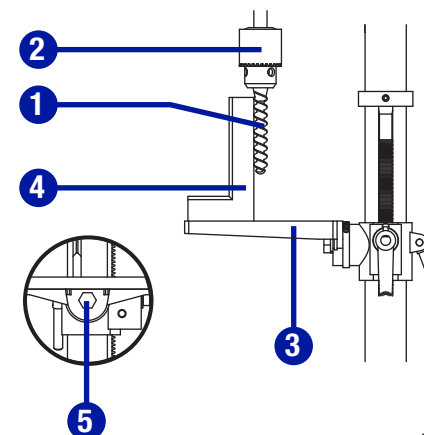

Fig. 18
**TO SQUARE THE TABLE TO THE HEAD (Fig. 18)**
- Insert a 3" (7.6 cm) drill bit (1) into the chuck (2) and tighten.
- Raise and lock the table (3) about 1" (2.5 cm) from the end of the drill bit.
- Place a combination square (4) on the table as shown. The drill bit should be parallel to the straight edge of the square.
- If an adjustment is needed, loosen the bevel lock (5) with a wrench.
- Tighten the bevel lock bolt (5) when square.